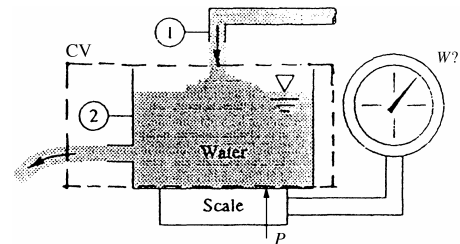

Fig. P3.66
3.66 The tank in Fig. P3.66 weighs 500 N empty and contains 600 L of water at 20°C. Pipes 1 and 2 have $D = 6 \text{ cm}$ and $Q = 300 \text{ m}^3/\text{hr}$. What should the scale reading W be, in newtons?